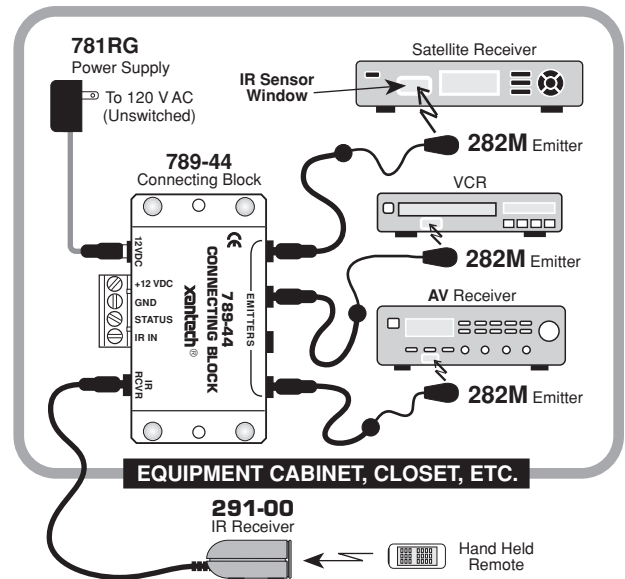

Fig. 5
- **Fig. 5** illustrates a typical basic system using the **282M** emitters.